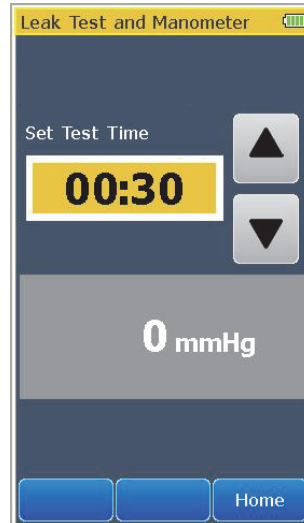

Figure 10. Leak Test Screen
2. Touch the **Leak Test and Manometer** control to show the screen shown in Figure 10 in the display.